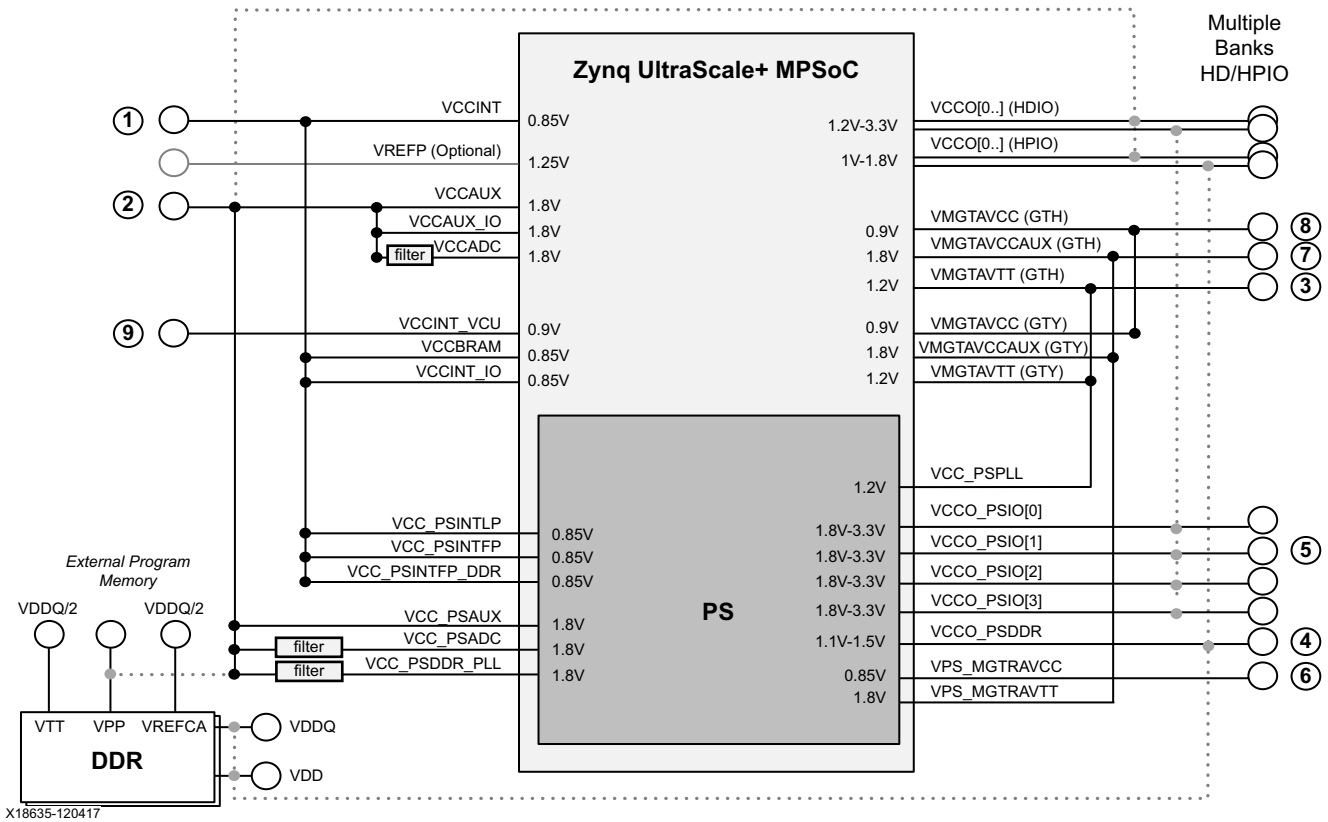

Figure 1-4: Always On: Cost-Optimized Power Rail Consolidation
In always on, cost-optimized applications, where standard -1 or -2 speed grade devices are used, a significant amount of power rail consolidation is possible, assuming the decoupling and filtering requirements on the individual supplies as outlined in this document are met. Table 1-2 broadly defines the power rail consolidation that is possible for this use case. For further clarity, Figure 1-4 shows the possible power rail consolidation graphically.
**Note:** In Figure 1-4, the dashed lines are dependent on the user configuration.